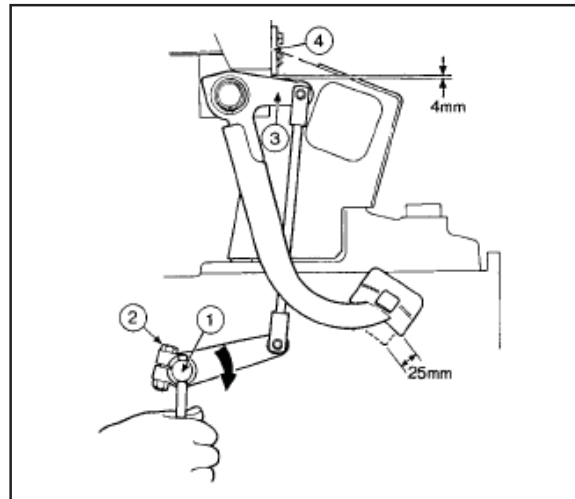

Fig. 98
1. Insert a solid bar in the hole at the end of the clutch operating shaft (1, Fig. 98) and rotate it clockwise until resistance is felt.
2. Slacken the clamp bolt (2) securing the arm to the shaft and set the distance between the lever (3) and the stop plate (4) to 4 mm (0.156 in). This will give a free pedal movement of 25 mm (1 in) at the pad.
3. Retighten the clamp bolt (2). Press the clutch pedal down through its full travel five times, recheck the free travel and readjust if necessary.